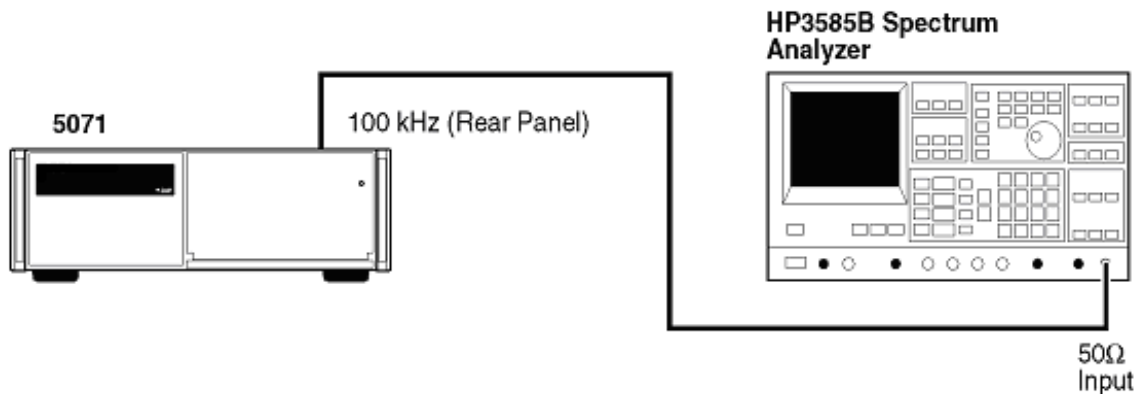

Figure A-6. 100 kHz Harmonic Distortion Test Setup
- 1 Connect the 5071A 100 kHz output to the 3585B Spectrum Analyzer as shown in Figure A-6. Set the 3585B for 50Ω input impedance.